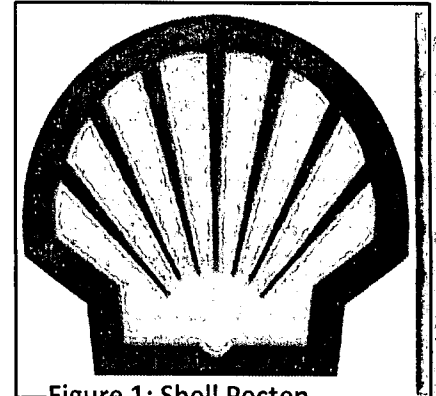

Figure 1: Shell Pecten
- Two Shell “Pecten” signs (see **Figure 1**) on the gas pump canopy. The Pecten signs are replacing *Shell* lettering and have a smaller sign area than the lettering.